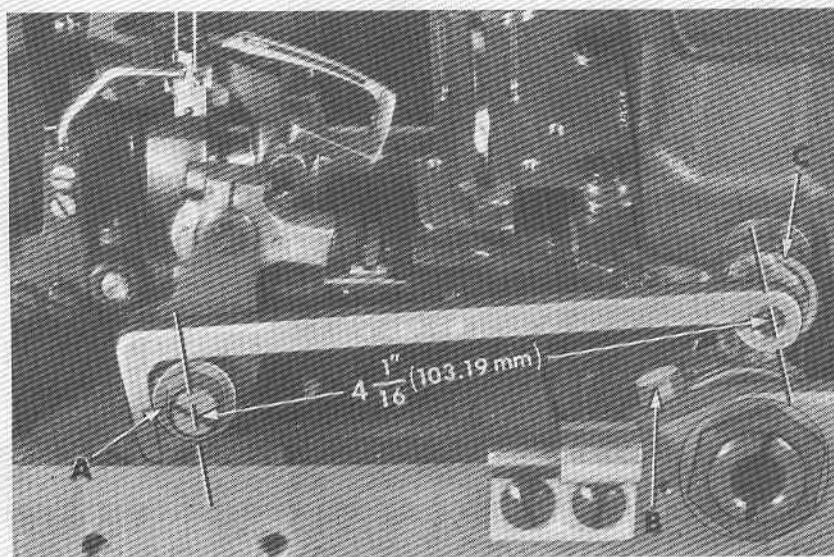

Fig. 6
With the looper at the extreme right end of its travel, check the location of the right looper connecting rod bearing, using gauge No. 21227 DC (See Fig. 6). Place hole of the gauge over threaded stud and the left inside edge of the gauge should locate against the left side of the looper rocker cone (A). If adjustment is necessary, loosen clamp screw (B), reposition looper drive lever (C) as required and retighten clamp screw.
If gauge No. 21227 DC is not available, this setting can be checked with a scale. Distance between the centerline of the looper rocker cone and the centerline of the looper lever stud should be $4 \frac{1}{16}$ inch (103.19 mm) (Fig. 6) when looper is at its extreme right end of travel.